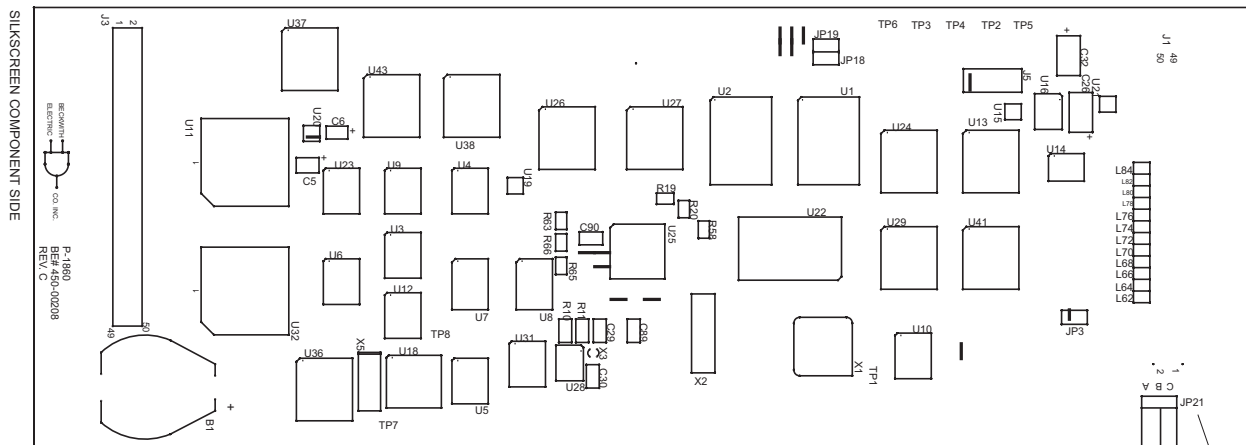
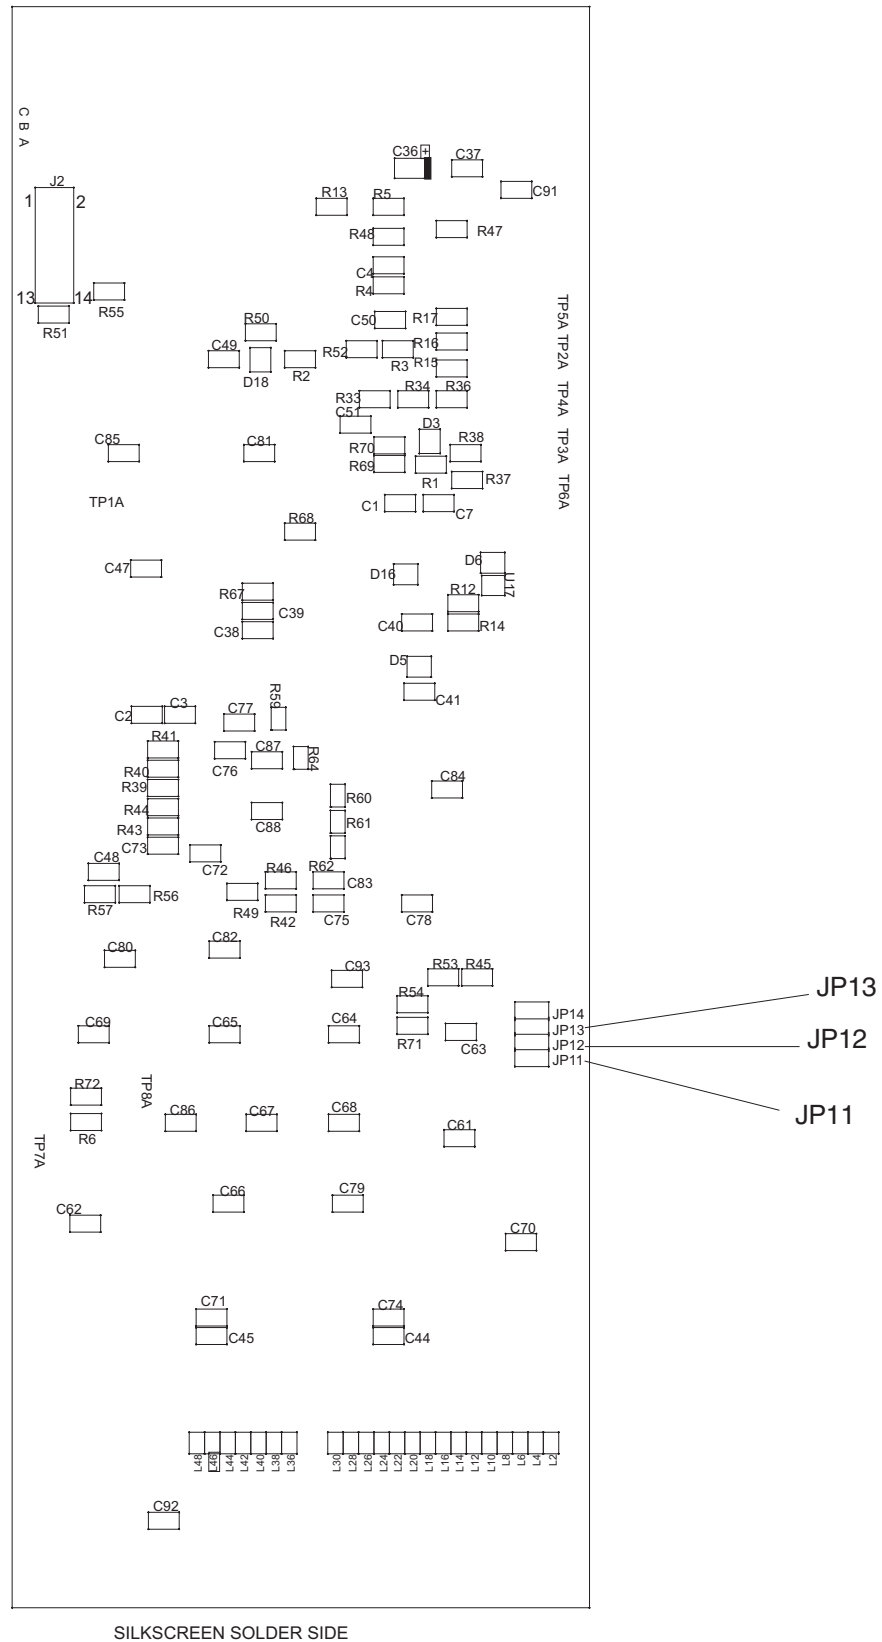

Figure 2-25 M-3410A Top-View CPU Board
Figure 2-26 M-3410A Bottom-View CPU Board
See Figure 2-25, M-3410A I/O Board, or Figure 2-26, M-3410A Top-View CPU Board for Jumper locations.
6. JP21 is now accessible. See Figure 2-25, M-3410A CPU Board.
4. Connect a jumper across JP11 (Figure 2-26).
4. Connect a jumper across JP13 (Figure 2-26).